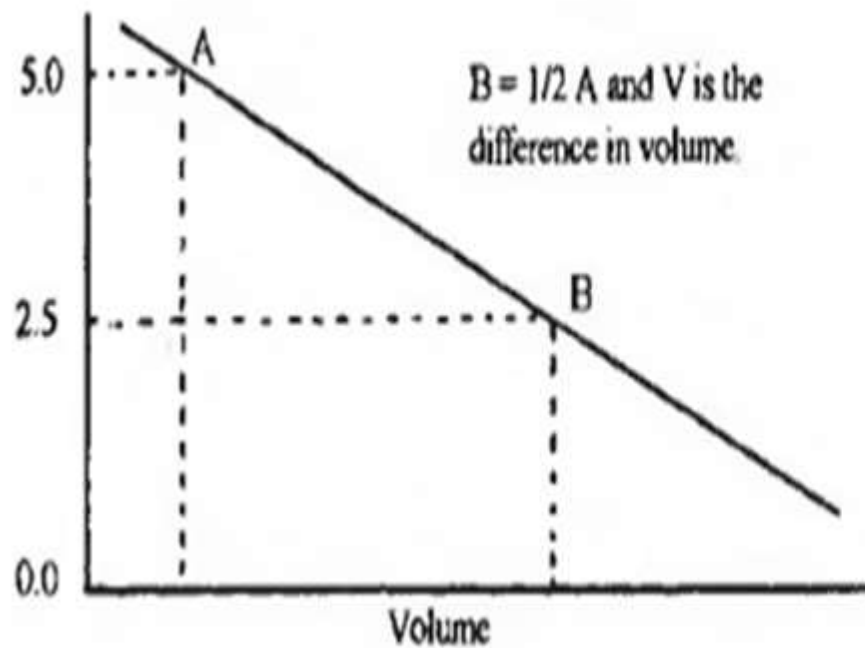

Figure 10-1. Diagram showing how the half extraction volume is determined.
- The efficiency of continuous extractors is measured by the half extraction volume, determined as shown in Figure 10-1, p. 108. This is the volume of extracting solvent required to reduce the amount of the desired compound in the sample to one-half of its original concentration. A distribution factor, k , can be used to evaluate individual systems.